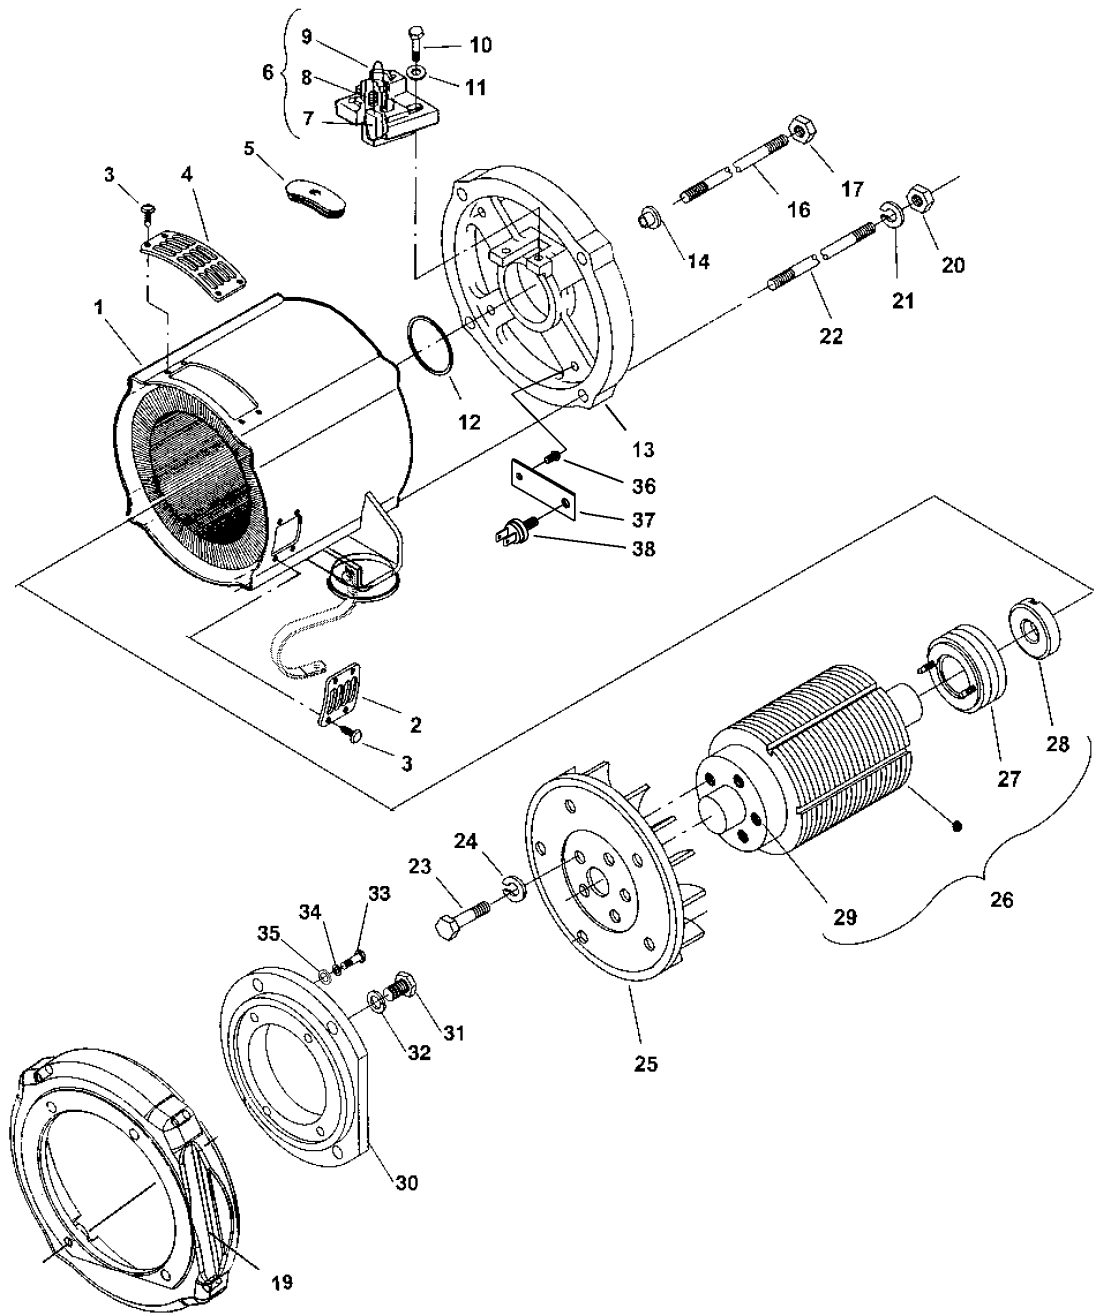

FIGURE 7-6 GENERATOR DISASSEMBLY/REASSEMBLY
11. Remove the four nuts (Figure 7-6 item 20) and lock washers (Item 21) from the generator studs (Item 22). Pry the end bell free of the rotor bearing. Be careful not to damage the brush holder. (Figure 7-6).